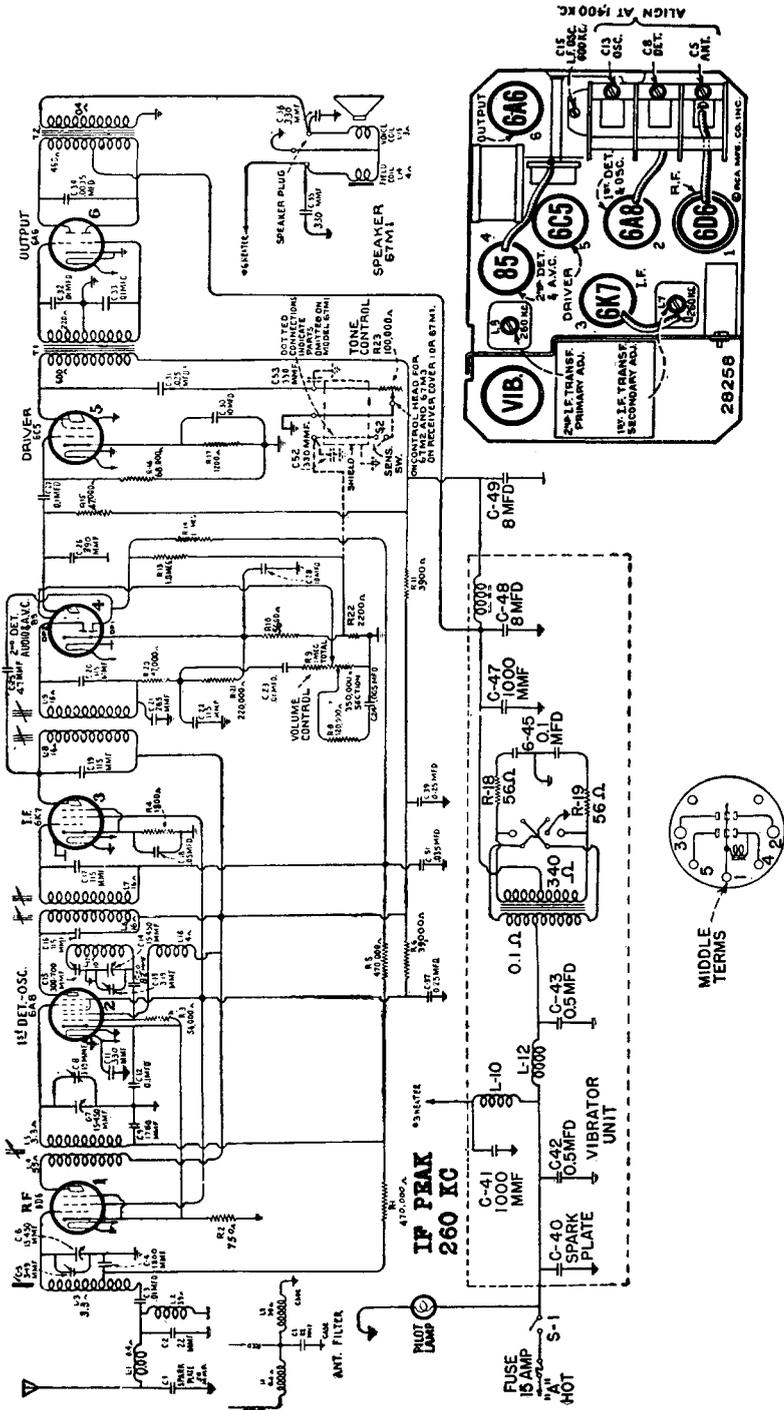

Fig. 21-22. Schematic diagram of the RCA Model 67M1 receiver.
A radio with a synchronous vibrator must, therefore, include some provision for reversing the output *B* polarity, since the radio may be installed in any automobile, and either the positive or the negative battery terminal is the hot lead. Either one of two methods is commonly employed to reverse the *B* output when necessary. In one, the two ends of the high-voltage winding are brought to a screw-terminal strip and equipped with spade lugs to permit a convenient reversal. In the other, the vibrator and its socket are so constructed that the vibrator may be installed in either one of two positions. In one position, the receiver will operate properly with the negative terminal of the battery grounded, and the other position accommodates a grounded positive. Figure 21-22 shows a receiver of this type.
**A typical auto radio using a synchronous vibrator.** Figure 21-22 shows the schematic diagram of the RCA Model 67M1 auto radio receiver, which uses a synchronous vibrator. Note the following items of interest. The power supply is enclosed in a shielded compartment, as indicated by the dotted line surrounding it. There is no filter on the pilot-lamp lead. This is unnecessary since the pilot lamp is installed in a remote-control head and therefore cannot bring hash or ignition interference into the radio receiver. There is a spark plate condenser *C*-40 connected to the hot battery lead as it enters the receiver. Condenser *C*-43 and RF choke *L*-12 make up the hash filter for the transformer primary and vibrator. Condenser *C*-41 and RF choke *L*-10 form an additional hash and ignition noise filter to feed the heater line.
When servicing a receiver, like the one of Fig. 21-22, where the polarity change-over is accomplished by the position of the vibrator in its socket, if the vibrator is removed for test or replacement, it is important to note the position identification. Then the vibrator may be replaced with the correct polarity setting.
Note the IF of 260 kc for the receiver in Fig. 21-22. This intermediate frequency is commonly found in many auto radios.